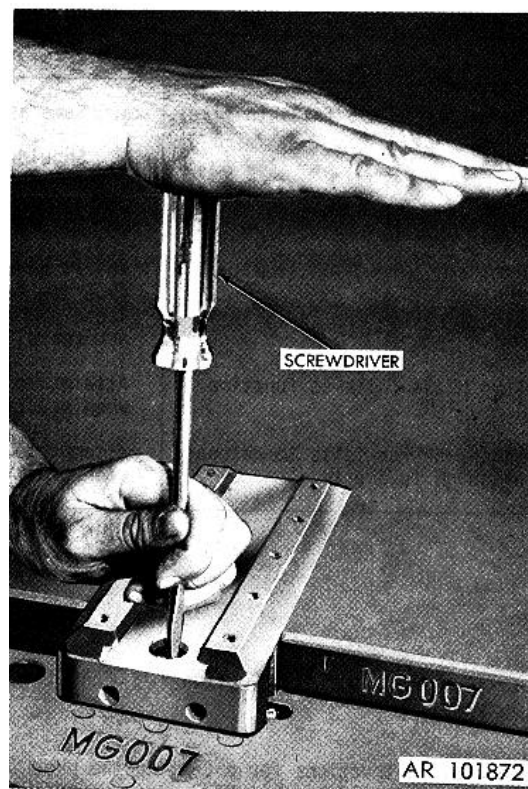

Figure 2-42. Depressing main cover lockpin.
g. With screwdriver depress main cover lockpin (fig. 2-42).